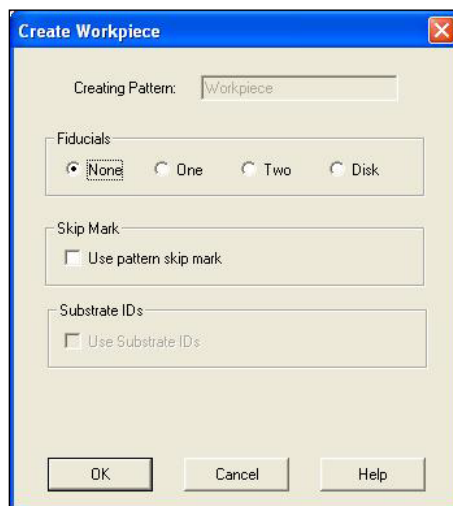

Figure 4-15 Create Workpiece
3. The Create Workpiece Window opens (Figure 4-15).